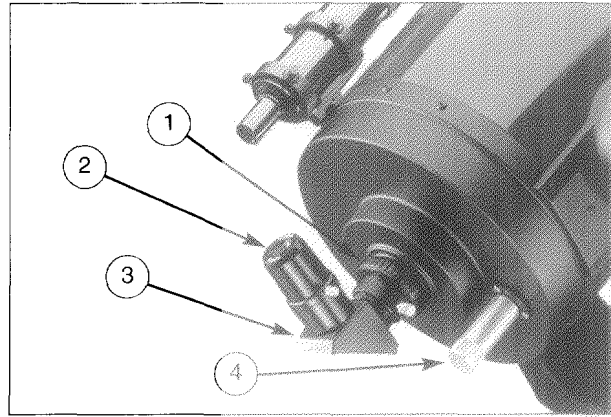

Fig. 3: (1) Eyepiece Holder; (2) Eyepiece; (3) Diagonal Prism. (4) Focus knob.
CAUTION: (10" LX50 Only) Read this note **BEFORE** attempting to turn the focus knob (4), Fig. 3, of the optical tube. Locate the red-colored slotted head bolt next to the base of the focuser. This bolt is used for safety in shipment only. Remove this bolt before attempting to turn the focuser knob. In place of this bolt, insert the plastic plug provided as a dust protector (this plastic plug is included with the optical tube assembly). The focuser will now be operational. The 10" LX50 should never be commercially shipped without this red-colored bolt in place. This bolt is essential for commercial transport where rough handling may occur. For personal transport and storage, this bolt is not required.